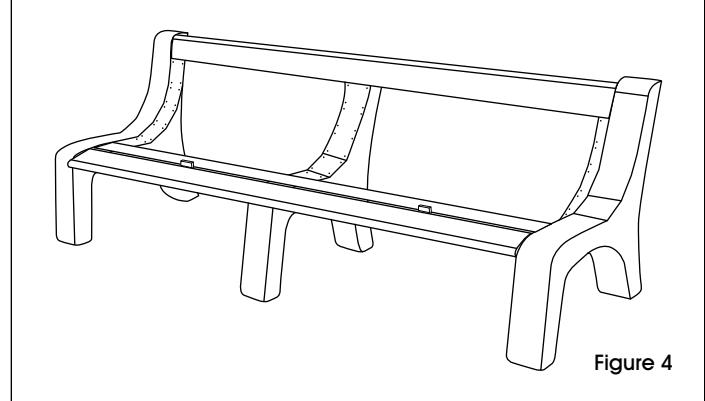

Figure 4
5. Install the next seat board adjacent to the front rounded board using the 3/8" spacers to ensure an even 3/8" gap between boards. Attach with screws fastened through the pre-drilled holes. (See Figure 4)